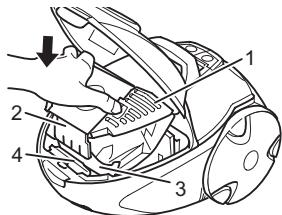

Fig.20
7. Then reinsert the dust bag holder (Fig. 20/1) into the dust chamber. Push the guide of the dust bag holder (Fig. 20/2) straight into the rail provided for this purpose (Fig. 20/3) to do so, until the interlock for the dust compartment cover (Fig. 20/4) is folded back.